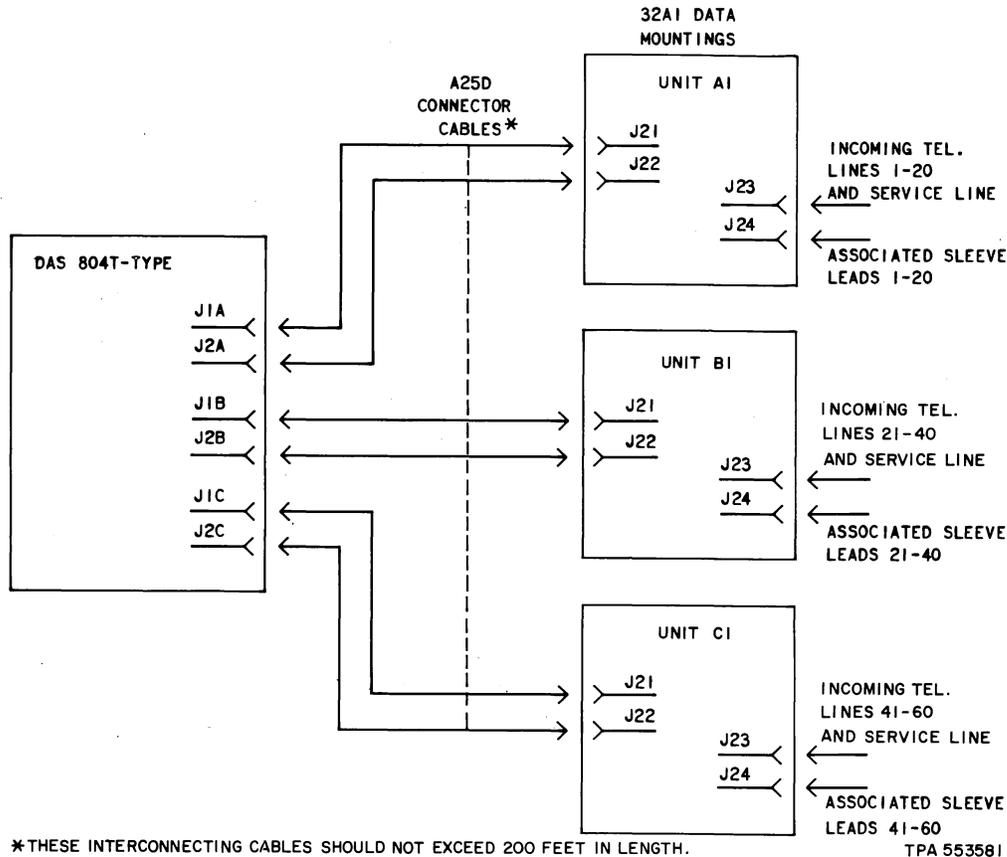

Fig. 9—DAS 804T-Type Connection Arrangement
4.09 At installations where a DAS 804T-type is provided, using two, four, or six double-ended A25D connector cables, connect each DAS 804T-type to Units A1, B1, and C1, Units A2, B2, and C2, etc, in accordance with Figure 9.